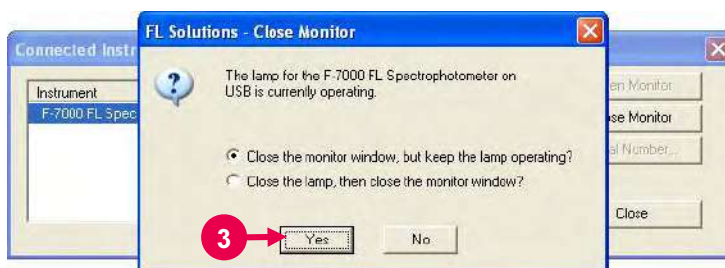

Fig. 8-5
- (3) Upon clicking the **Close Monitor** button (refer to ② in Fig. 8-4), a window as in Fig. 8-5 will open. When you click the **Yes** button (refer to ③ in Fig. 8-5), the offline status is set.